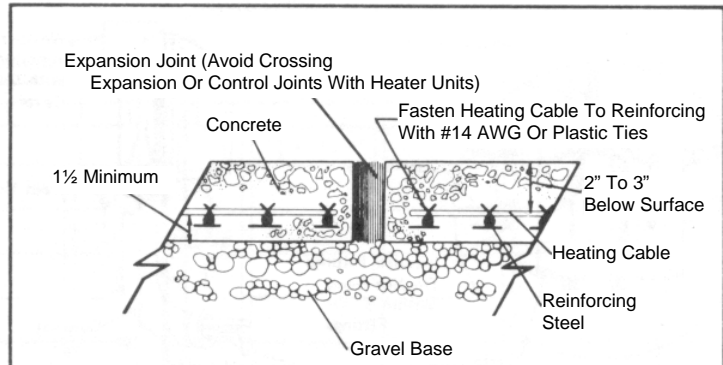

FIG. 2 TYPICAL CONCRETE INSTALLATION
3. Install reinforcing rods or mats at correct distance from final surface by use of concrete spacers, bricks, wire "chairs" or any suitable method to insure proper placement of reinforcing material. (See Fig. 2)